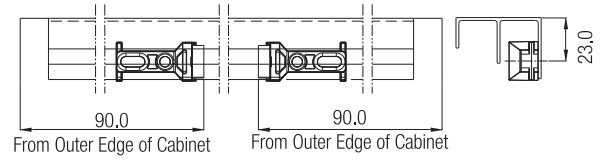

Fig. 8
- 7.1. Fit the Bottom Stoppers as shown in Fig 8.